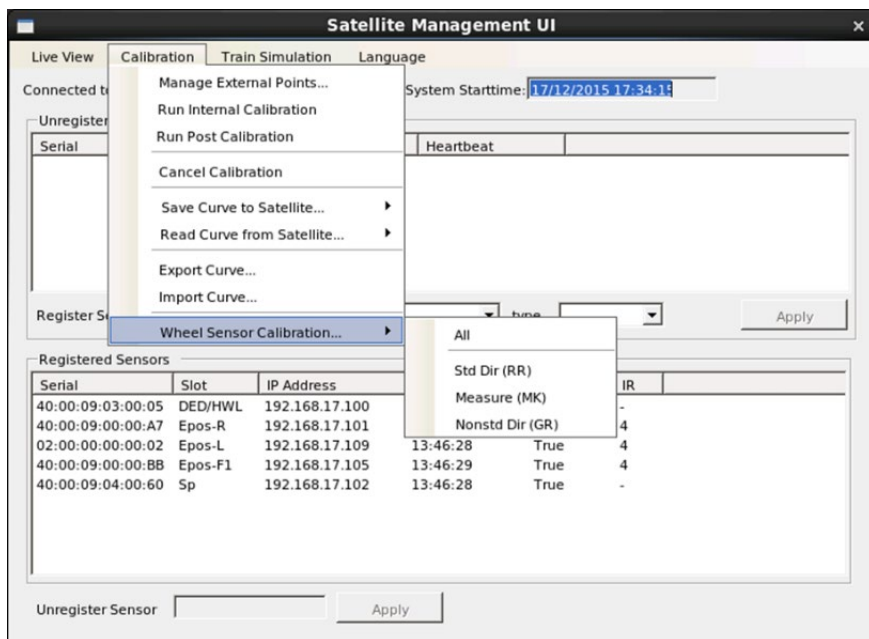

Figure 1 - Voltage adjustment of RSR123 – via software
1.3 Open the "Calibration" menu and click "Wheel sensor calibration" and a second drop-down menu showing "RR", "MK" or "GR" appears, click as required. See Figure 1.